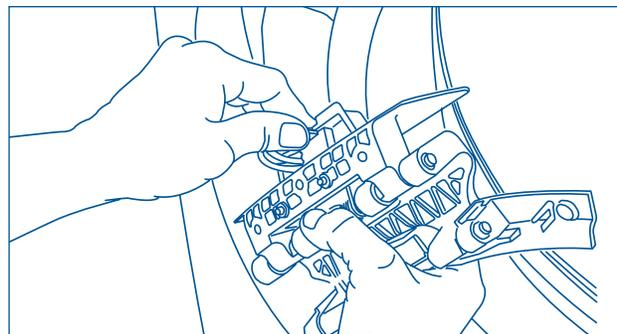

Figure 4-12.
4. Lift up on the tab and the release harness from the retainer, allowing the harness to lay outside the front panel. (See Figure 4-12)